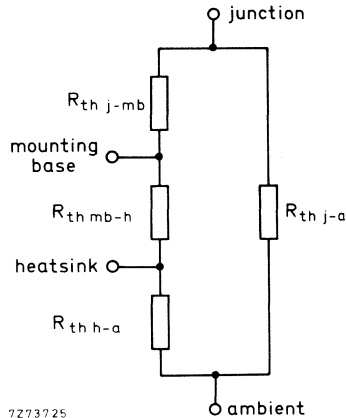

Fig.3
- a. The various components of junction temperature rise above ambient are illustrated in Fig.3